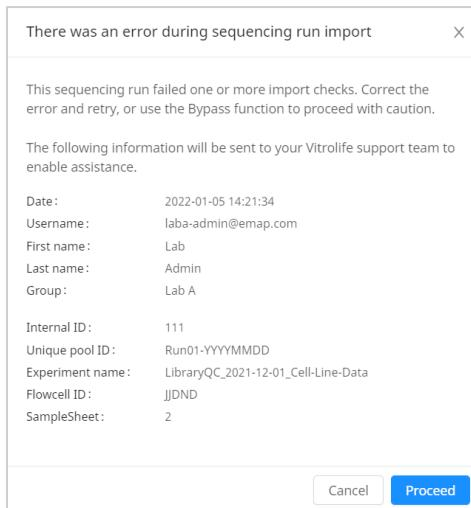

Figure 11: Custom Import bypass summary
5. A summary message is shown. Click  **Proceed** to bypass the error, this will trigger an analysis using the default settings in the account. Send action details to Vitrolife Support for assistance. Only the information displayed on screen is shared (Figure 11). Alternatively, click  **Cancel** to exit. Data will not be visible until the run import error is bypassed.